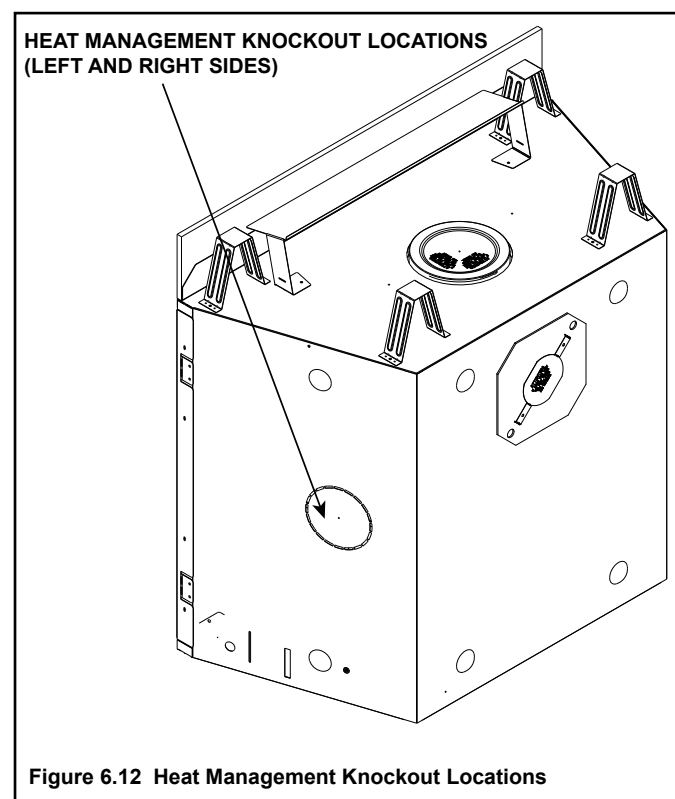

Figure 6.12 Heat Management Knockout Locations
- Locate the heat management ports on the left and right sides of the appliance. Either one or two Heat-Zone® -Gas Kits may be installed. Remove the knockout from the fireplace and discard it. See Figure 6.12.